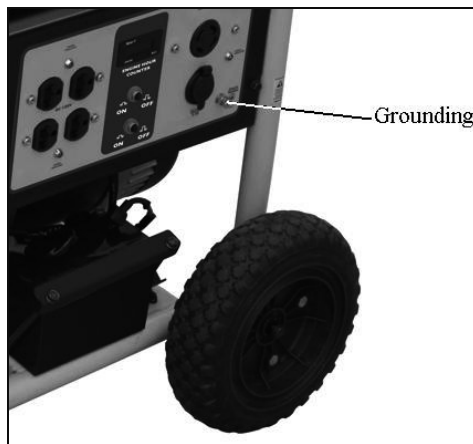

Figure 11- Grounding nut location
Ground the generator by tightening the grounding nut against grounding wire (see figure 11). A generally acceptable grounding wire is a No. 12 AWG (American Wire Gauge) stranded copper wire. This grounding wire should be connected at the other end to a copper or brass grounding rod that is driven into the earth. Wire and grounding rod are not included in generator contents.
2. Check that the generator is properly grounded (see Figure 11, “Ground the Generator”).
2. Check that the generator is properly grounded (see Figure 11 “Ground the Generator”).
Ground the generator by tightening the grounding nut on the front control panel against a grounding wire. (Figure 11) A generally acceptable grounding wire is a No. 12 AWG (American Wire Gauge) stranded copper wire. This grounding wire should be connected at the other end to a copper or brass rod that is driven into the earth. Wire and grounding rod are not included in generator contents.